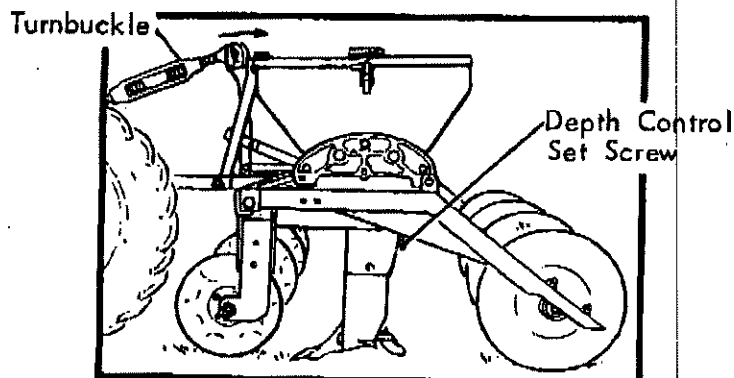

Fig.4
15. Screw depth control set screw on underside of hopper angle all the way up. (Fig 4)
18. Adjust down on depth control set screw until desired boot depth is obtained, secure jam nut on set screw. (approximately 4" is recommended boot running depth) (See Fig. 4)